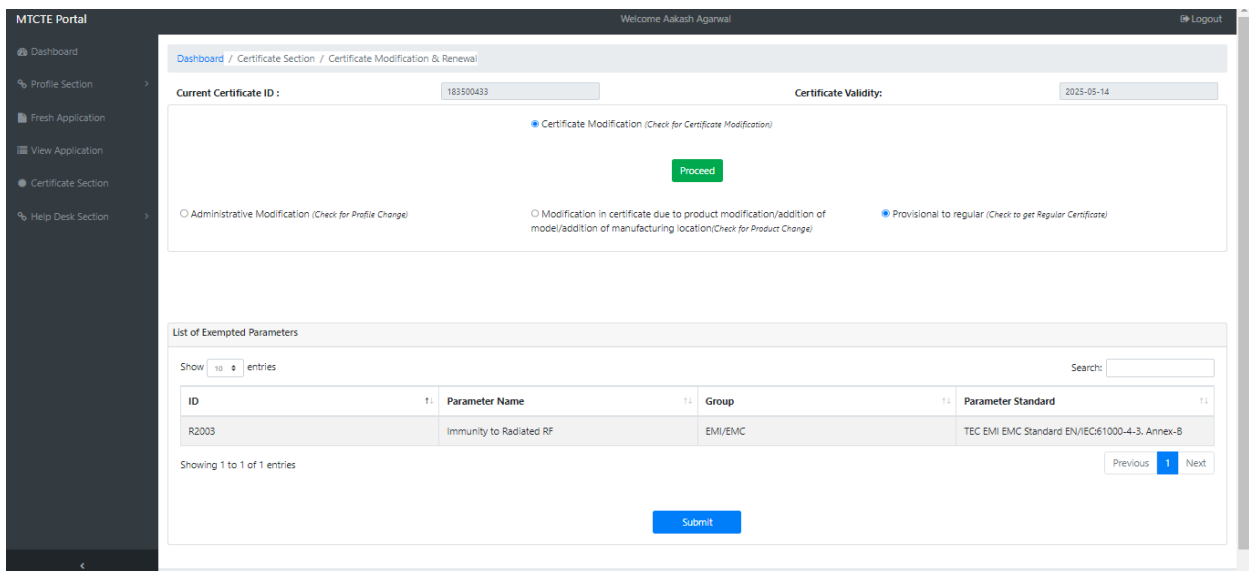

Fig. 57: Provisional to Regular
- iii.** On selecting ***Provisional to Regular***, the list of Exempted parameters will be shown (Fig.57). Click on ***Submit***.